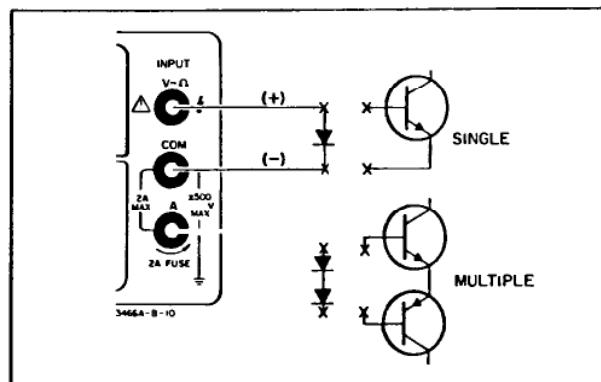

Figure 3-12. Diode Test
- Connect test leads across the diode or transistor as shown in Figure 3-12.